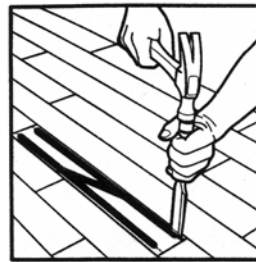
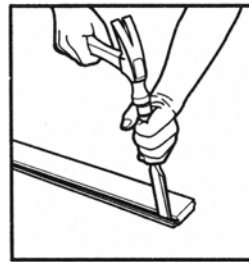

Figure 7-4
Figure 7-5
- D. With a chisel or specialty saw, cut completely through both ends at cut lines and lift out the center of the board. The groove-side piece can now be removed. Figure 7-4 & Figure 7-5.